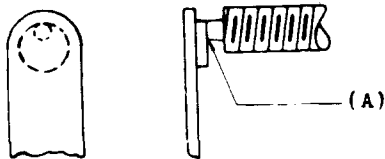

Fig. 3
- 2.06 Contact Alignment - Fig. 3 (A) - Contacts shall line up so that the point of the contact falls wholly within the circumference of the opposing contact disc. Gauge by eye.